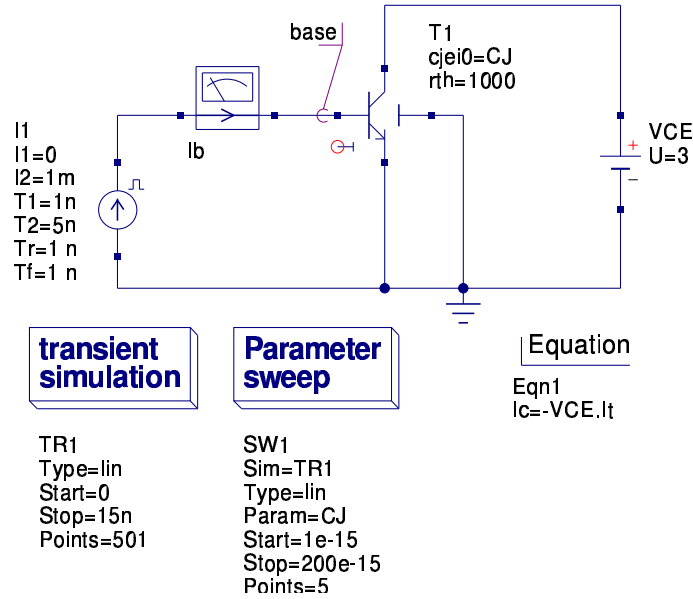
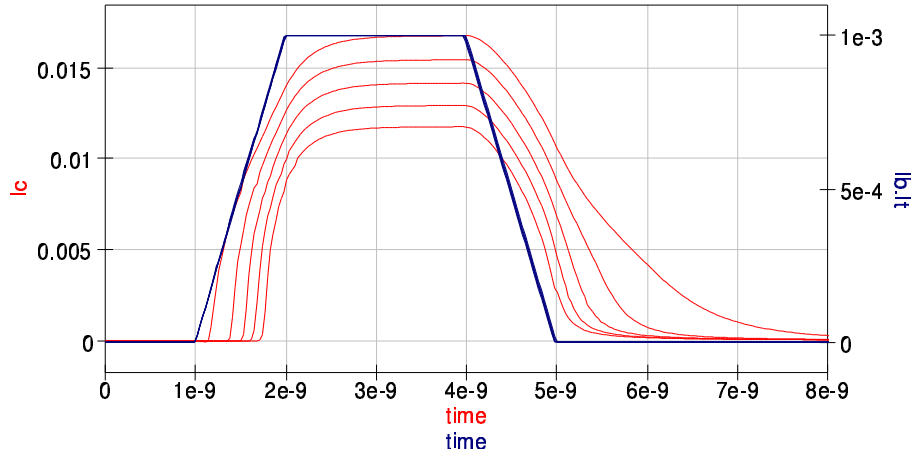

Figure 1.12: Transient simulation schematic for HICUM/L2 v2.11 model
Figure 1.13: Transient simulation plot for HICUM/L2 v2.11 model
**Transient simulation.** In the schematic in fig. 1.12 a current pulse is fed into the base of the transistor. Varying the input capacitance changes the response in the collector current as shown in fig. 1.13.